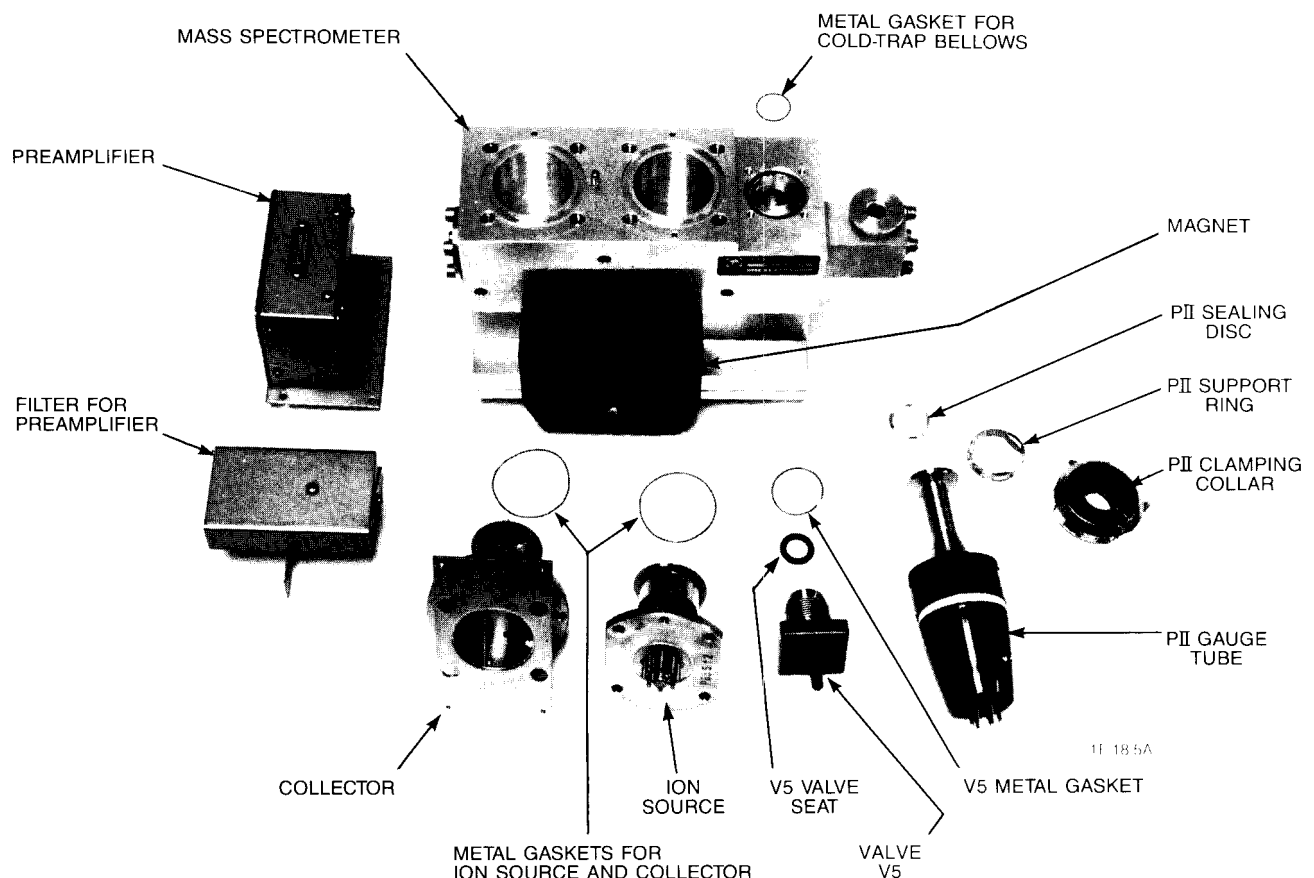

Figure 8-4 - Disassembled Mass Spectrometer
\* THERE ARE TWO VERSIONS OF THE PREAMPLIFIER. SEE FIGURE 8-4 FOR A PHOTOGRAPH OF THE OTHER VERSION.
Remove the four recessed allen-head capscrews attaching the collector to the mass spectrometer and remove the collector (see Figure 8-4).
6. Replace the metal gaskets on valve V5, the ion source, the collector, the bottom plate, and the cold-trap bellows connection with new metal gasket (see Section 8-9 and Figure 8-4).